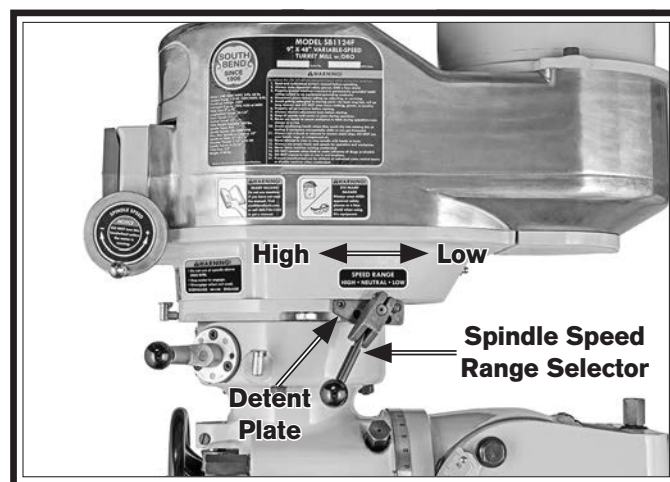

Figure 42. Spindle speed range selector.
3. Press spindle speed range lever shown in **Figure 42** toward head to release detent pin from detent plate, move selector pin over opposite detent, then release selector.